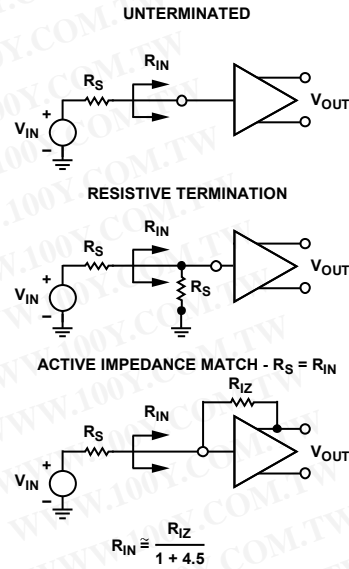
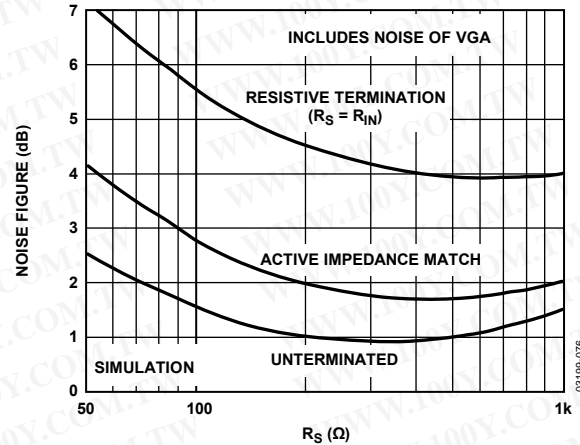
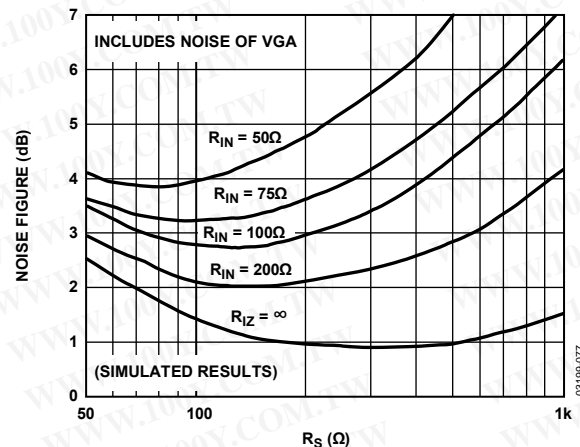

Figure 75. Input Configurations
Figure 76. Noise Figure vs.  $R_S$  for Resistive, Active Match, and Unterminated Inputs
Figure 77. Noise Figure vs.  $R_S$  for Various Fixed Values of  $R_{IN}$ , Actively Matched
The input-referred voltage noise sets an important limit on system performance. The short-circuit input voltage noise of the LNA is  $0.74\text{ nV}/\sqrt{\text{Hz}}$  or  $0.82\text{ nV}/\sqrt{\text{Hz}}$  (at maximum gain), including the VGA noise. The open circuit, current noise is  $2.5\text{ pA}/\sqrt{\text{Hz}}$ . These measurements, taken without a feedback resistor, provide the basis for calculating the input noise and noise figure performance of the configurations in Figure 75. Figure 76 and Figure 77 show simulations extracted from these results and the  $4.1\text{ dB}$  noise figure (NF) measurement with the input actively matched to a  $50\text{ }\Omega$  source. Unterminated ( $R_{IZ} = \infty$ ) operation exhibits the lowest equivalent input noise and noise figure. Figure 76 shows the noise figure vs. source resistance, rising at low  $R_S$ , where the LNA voltage noise is large compared to the source noise, and again at high  $R_S$  due to current noise. The VGA input-referred voltage noise of  $2.7\text{ nV}/\sqrt{\text{Hz}}$  is included in all of the curves.
The primary purpose of input impedance matching is to improve the system transient response. With resistive termination, the input noise increases due to the thermal noise of the matching resistor and the increased contribution of the LNA input voltage noise generator. With active impedance matching, however, the contributions of both are smaller than they would be for resistive termination by a factor of  $1/(1 + \text{LNA Gain})$ . Figure 76 shows their relative NF performance. In this graph, the input impedance is swept with  $R_S$  to preserve the match at each point. The noise figures for a source impedance of  $50\ \Omega$  are 7.1 dB, 4.1 dB, and 2.5 dB, respectively, for the resistive, active, and unterminated configurations. The noise figures for  $200\ \Omega$  are 4.6 dB, 2.0 dB, and 1.0 dB, respectively.
Figure 77 is a plot of NF vs.  $R_S$  for various values of  $R_{IN}$ , which is helpful for design purposes. The plateau in the NF for actively matched inputs mitigates source impedance variations. For comparison purposes, a preamp with a gain of 19 dB and noise spectral density of  $1.0\ \text{nV}/\sqrt{\text{Hz}}$ , combined with a VGA with  $3.75\ \text{nV}/\sqrt{\text{Hz}}$ , yields a noise figure degradation of approximately 1.5 dB (for most input impedances), significantly worse than the AD8331/AD8332/AD8334 performance.